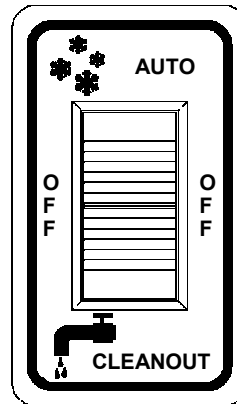

Fig. 25
5. Set the control switch (Fig. 25) to the "CLEANOUT" position and let the unit agitate for approximately three to five minutes.